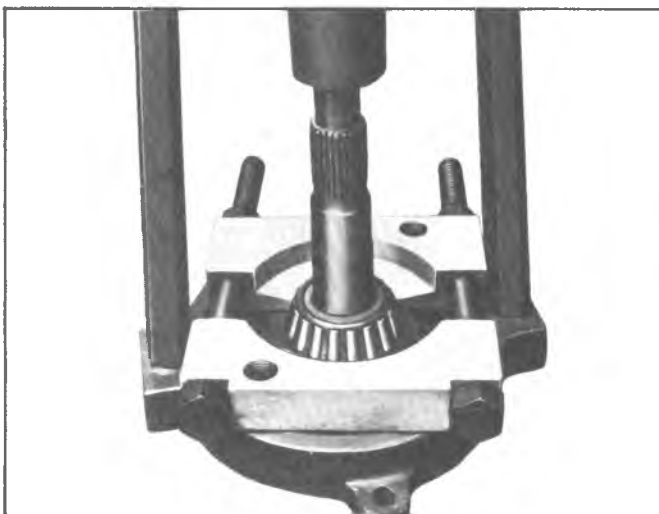

Fig. 15B—Removing Drive Pinion Rear Bearing
3. Remove rear pinion bearing from pinion shaft using Press Plate J-22912, as shown in figure 15B.